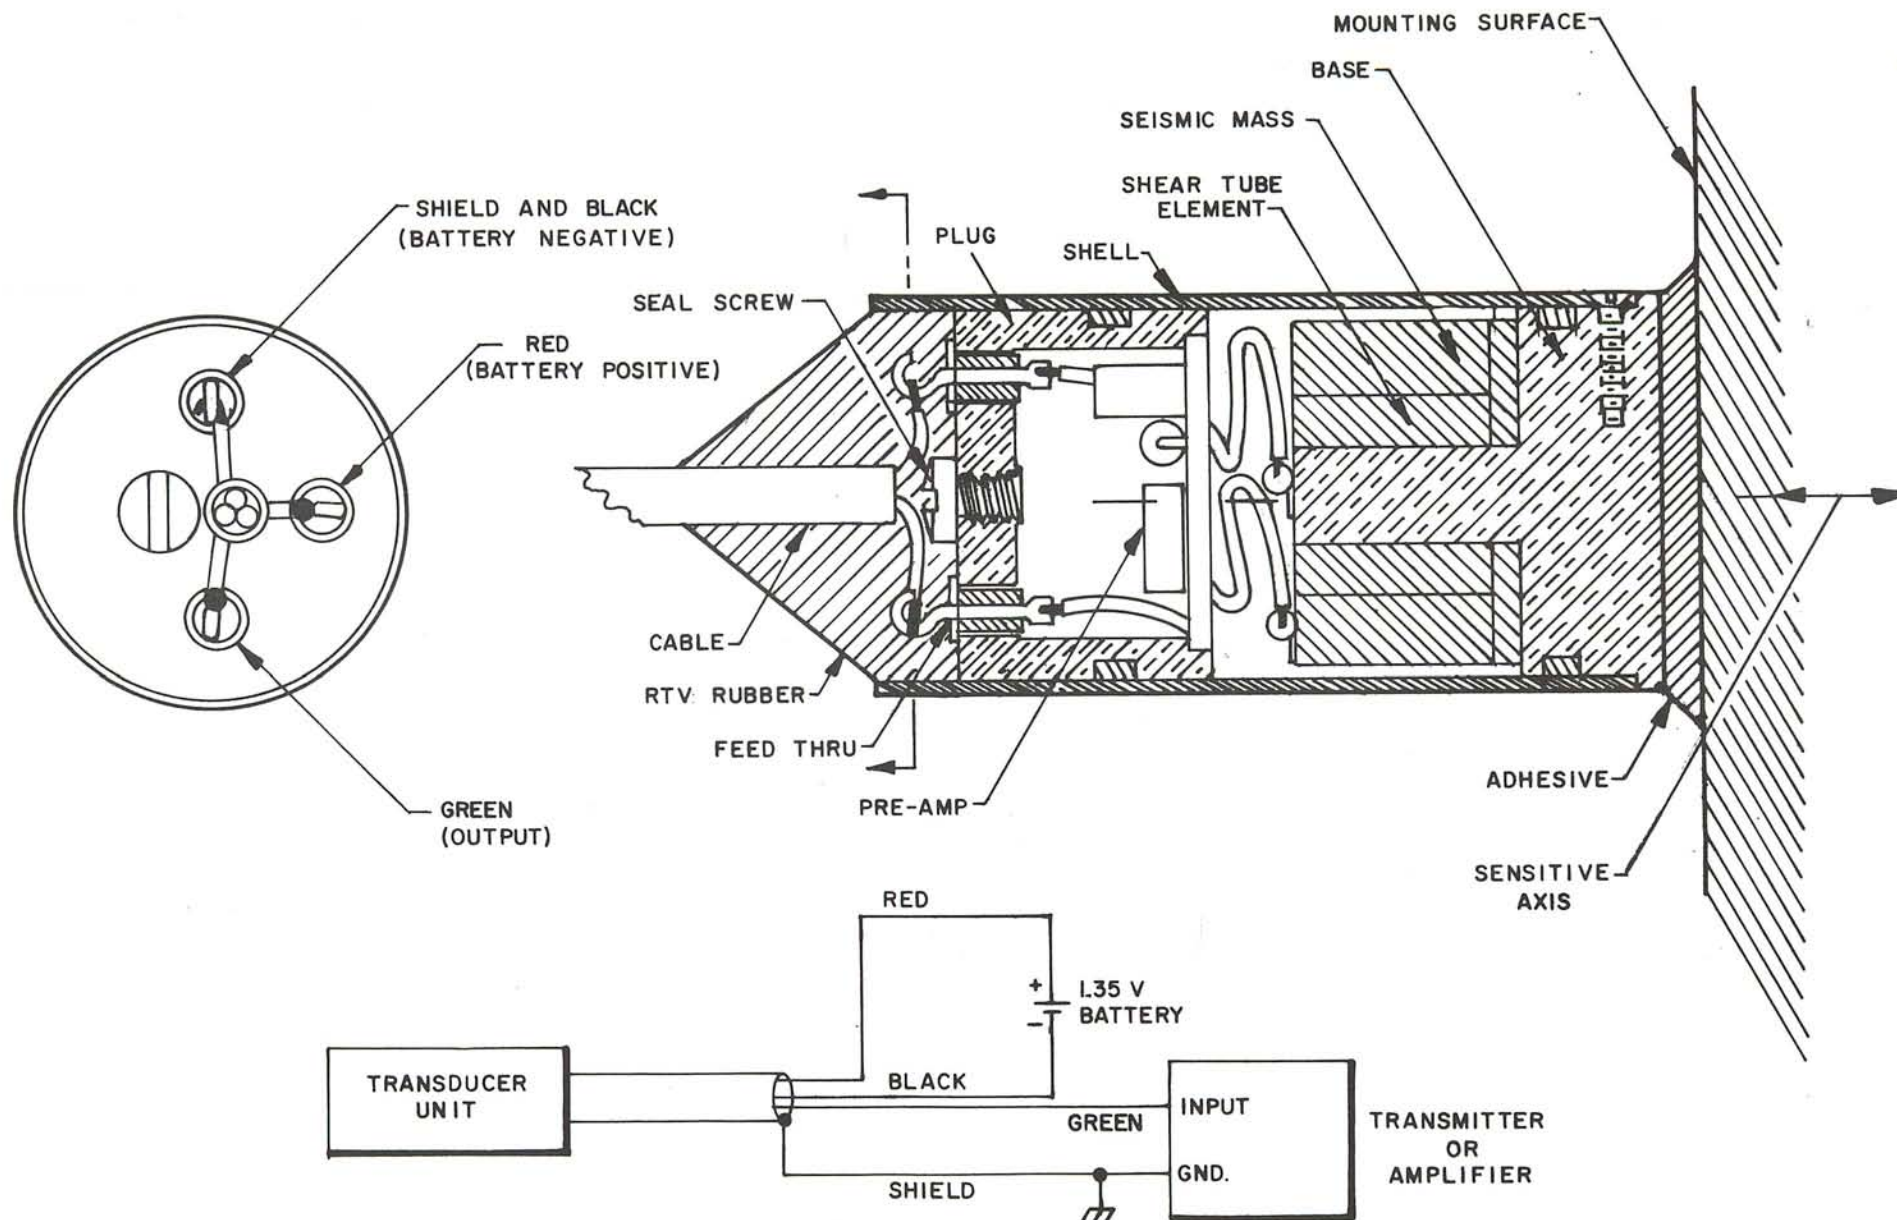

FIGURE 2. CERAMIC SHEAR TUBE CONTACT TRANSDUCER MICROPHONE
The Contact Transducer Microphone consists of a mass loaded piezo-ceramic shear tube and transistorized preamplifier in a brass housing. As shown in Figure 2, the shear tube is a cylindrical ceramic element which is rigidly mounted on a center post and mass loaded on the outer cylindrical face. The preamplifier consists of two transistor gain-stages on a printed circuit board. A schematic diagram of the preamplifier circuit is shown in Section 5, Schematic Diagram. Both the shear tube and preamplifier are contained in a brass housing which is completely filled with a high viscosity silicone oil to provide damping for the element. Electrical connections to the unit are made through the cable which is potted to one end of the housing.
The shear tube transducer is end-on sensitive and therefore, must always be mounted with the flat end parallel to the surface being monitored. A typical mounting to a wall surface with an adhesive is shown in Figure 2. The transducer has been designed to accept normal field abuse; however, reasonable care should be used whenever the device is handled. Avoid dropping the transducer since this could cause failure of the unit.
The cable extending from the end of the transducer provides all of the electrical connections. Connections should be made as shown in Figure 2, i.e., (1) Black to negative of a 1.35-volt battery, (2) Red to the battery positive, (3) Green, the signal lead, to the input of the follow-up equipment such as an amplifier or transmitter, and (4) Cable shield should be connected to the chassis of the follow-up equipment. The cable can be cut to any desired length without affecting the operation of the transducer. The transducer, which has no switches, is in operation whenever the battery leads are connected.
The only maintenance possible is the repair of a broken electrical lead. The green rubbery material around the cable can be carefully carved out with a knife to gain access to the solder terminals on the transducer. Electrical connections of the cable conductors are made as shown in the end view of the transducer in Figure 2. The cavity should then be filled with some material, preferably a silicone rubber, to protect the connections and provide strain relief for the cable.
To field test the transducer, connect it to a follow-up amplifier or transmitter as shown in the hook-up diagram in Figure 2. Since the transducer has no switches, it is in operation whenever the battery leads are connected. While monitoring the follow-up equipment, lightly scratch the transducer with a fingernail. This signal should be audible on the follow-up equipment. Receipt of such a signal indicates that the transducer is functioning properly. The transducer is essentially a go-no-go device and any degradation will cause it to become completely inoperative with no signal output.